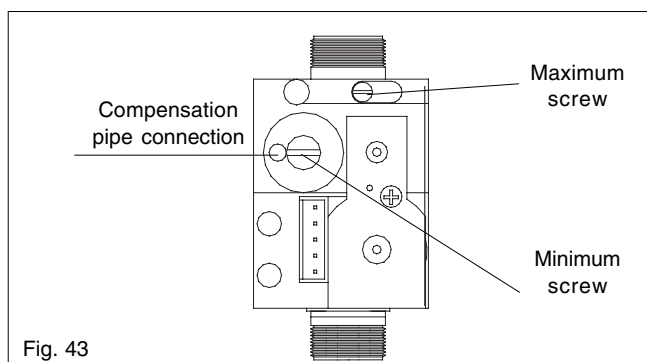

Fig. 43
- using a suitable screwdriver, very slowly turn the maximum adjustment screw (see fig. 43) – clockwise to decrease, counter clockwise to increase – until the correct value is displayed on the CO₂ analyser (allow time for the analyser to stabilise).
- using a 2,5 Allen key, very slowly turn the minimum adjustment screw (see fig. 43) – clockwise to increase, counter clockwise to decrease - until the correct value is displayed on the CO₂ analyser (allow time for the analyser to stabilise).
- Insert the flue gas analyser probe into the flue gas test point (see fig. 43).